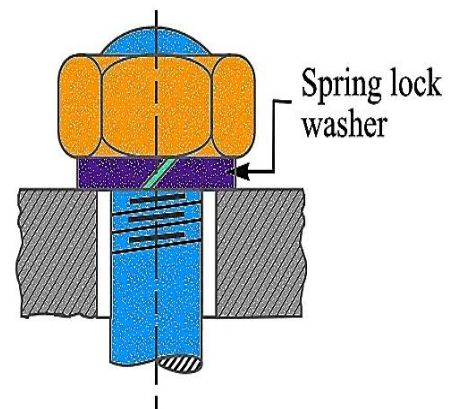

Fig. 3.6: Spring Lock Washer
- When the nut is tightened, the **spring lock washer** is compressed against the surface beneath it. One edge of the washer bites into that surface, creating additional friction and helping to resist loosening due to vibration or dynamic forces (Fig. 3.6).